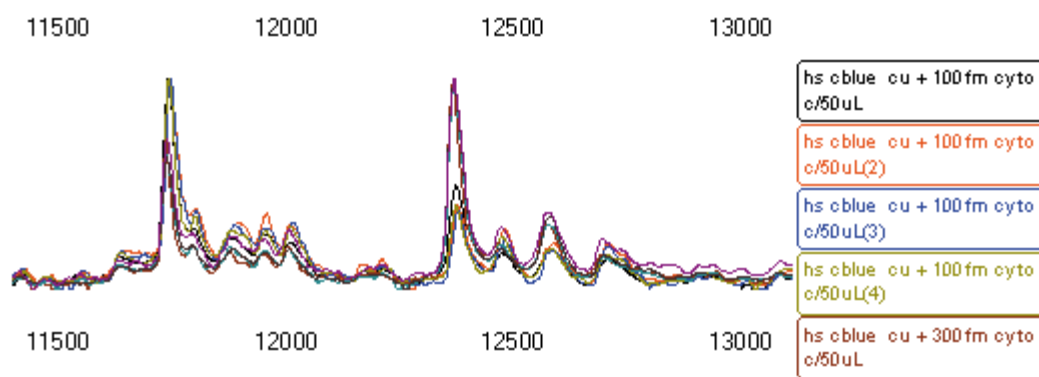

Figure 5-26: Data displayed in *Overlaid* layout.
- **Overlaid:** spectra share a common X- and common Y-axes as shown in Figure 5-26. This layout is useful for showing differences between two or three spectra, but can become cluttered when comparing larger numbers of spectra.